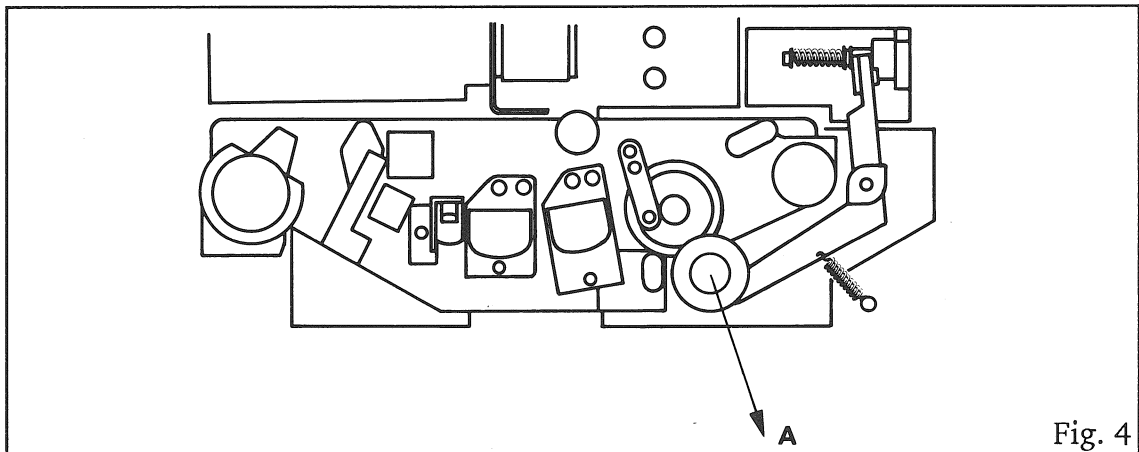

Fig. 4
- Attach a piece of nylon string to the pinch roller shaft (or a pin attached to it), connect the other end of the string to the spring dynamometer and pull the latter in the direction A (Fig. 4) until the pinch roller lifts off the capstan shaft. The spring dynamometer should give a reading of 10 N $\pm$ 1 N (1 kp $\pm$ 0.1 kp).